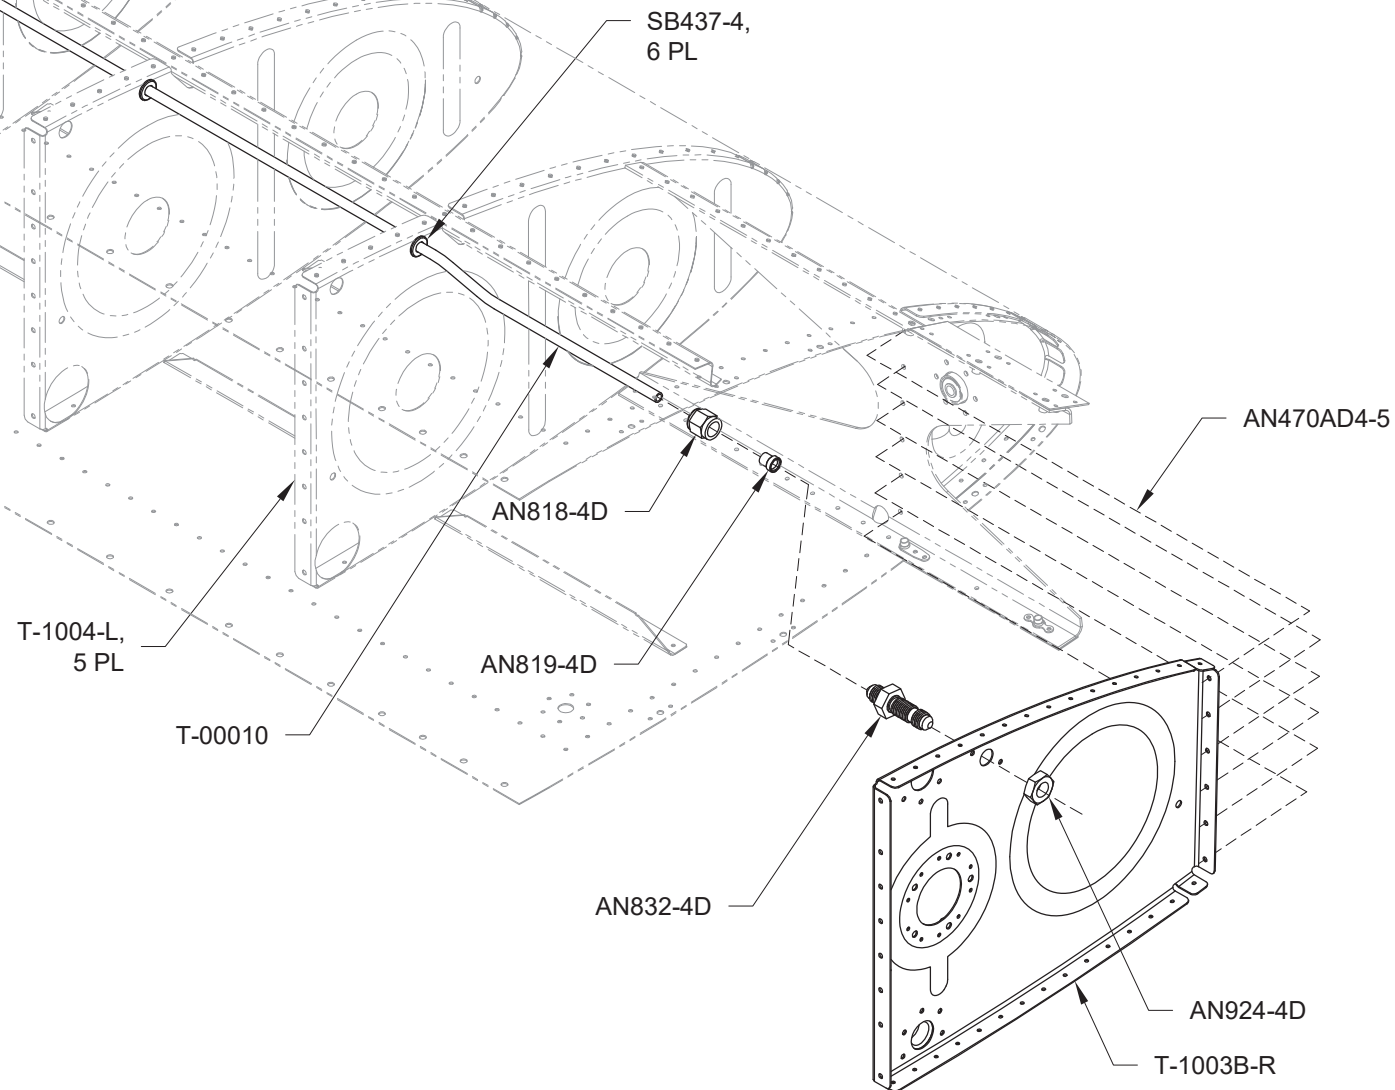

FIGURE 2: TANK VENT LINE & INBOARD END RIB INSTALLATION
Step 3: Insert the un-flared end of the T-00010 Fuel Tank Vent line into the snap bushing in the most inboard tank interior rib then feed it through the remaining snap bushings in the ribs. Finally, feed the fuel tank vent line through the snap bushing in the T-0005B Vent Clip. See Figure 2. Hand-bend the vent line tube as required in the most outboard rib bay to allow the vent line to pass through the rib snap bushing and into the vent clip snap bushing. Hand-bend the vent line tube in the most inboard rib bay to align the flared end of the tube with the bulkhead fitting that will be installed into the inboard Tank End Rib Assembly. Make sure there is at least a 1/4 [6.4 mm] gap between the end of the vent line and the inside of the tank outboard rib. See Figure 2.
Step 4: Rivet the T-1003B-R Tank Inboard Rib - Aft Subassembly to the T-00001-L Fuel Tank Skin, T-00006-L Tank Attach Bracket, and T-1003C-R Tank Inboard Rib-Fwd as shown in Figure 2. Rivets passing through the fuel tank skin are called-out on Page 18-05, Figure 1.
Step 6: Install the bulkhead bnion and but on the T-1003B-R Tank Inboard Rib - Aft as shown in Figure 2.
Step 2: Temporarily install the IE F-385B Fuel Level Sender as shown in Figure 1 & Figure 2. Bend the float wire and/or T-00010 Fuel Tank Vent Line so that the float clears the fuel tank vent line. The float and float wire should not contact either the top or bottom tank skin but leave a gap of at least 1/16 [1.6 mm] when the sender reaches its travel limits. Also verify that there is at least a 3/32 [2.4 mm] gap when the float/wire is nearest the T-1004-L rib.